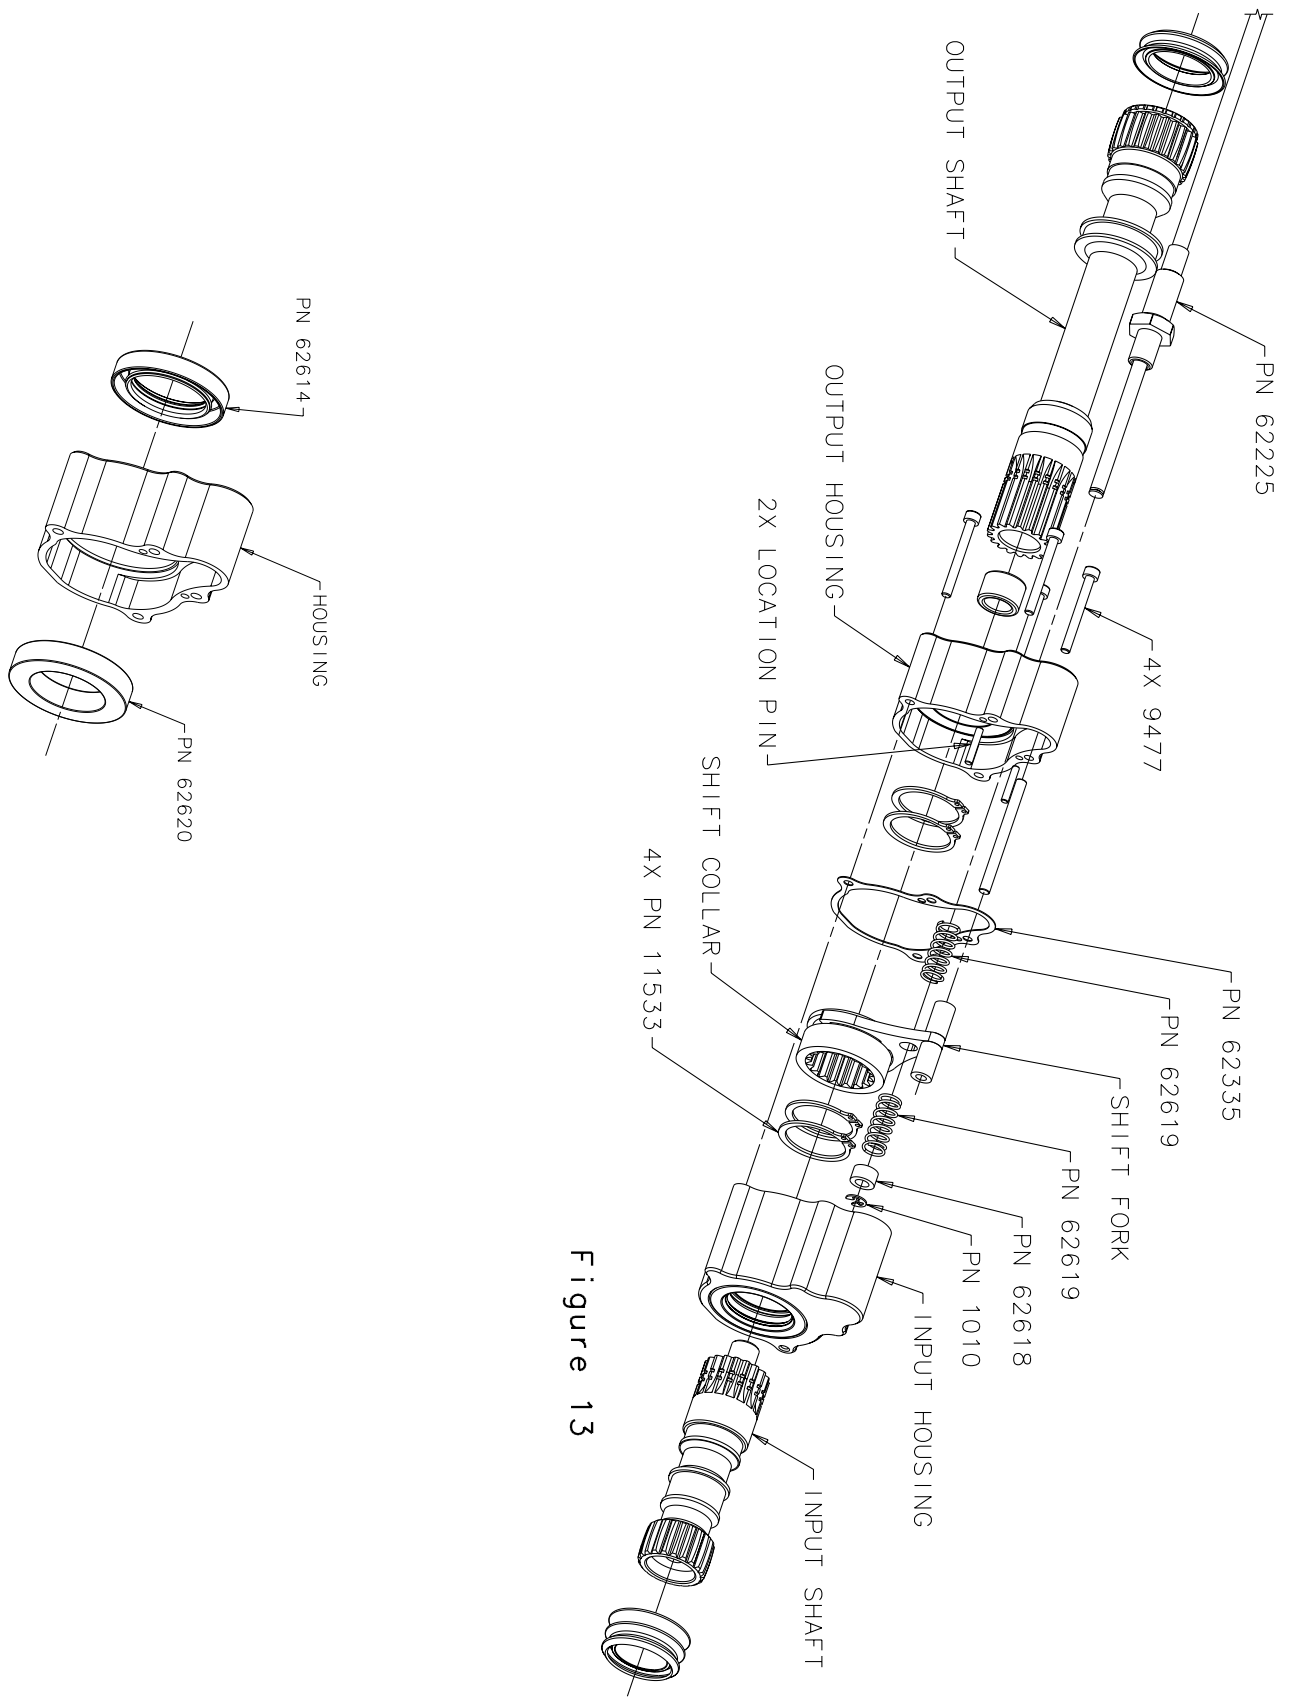

Figure 13
2. Press each shaft into the correct housing assembly from the seal side. Refer to **Figure 13** for correct location of each shaft with housing. The input shaft (no needle bearing) presses into the longer housing. The output shaft (with needle bearing) presses into the shorter housing (housing with cable assembly). When pressing the shaft into the housing, place a socket on the outside bearing race to keep the bearing from slipping out. Press each shaft to the depth equal to the second retaining ring groove.
2. Install cable into output housing and tighten. Place the new springs, existing shift fork, existing shift collar, new bushing and retaining ring onto the cable output end, **Figure 13**.